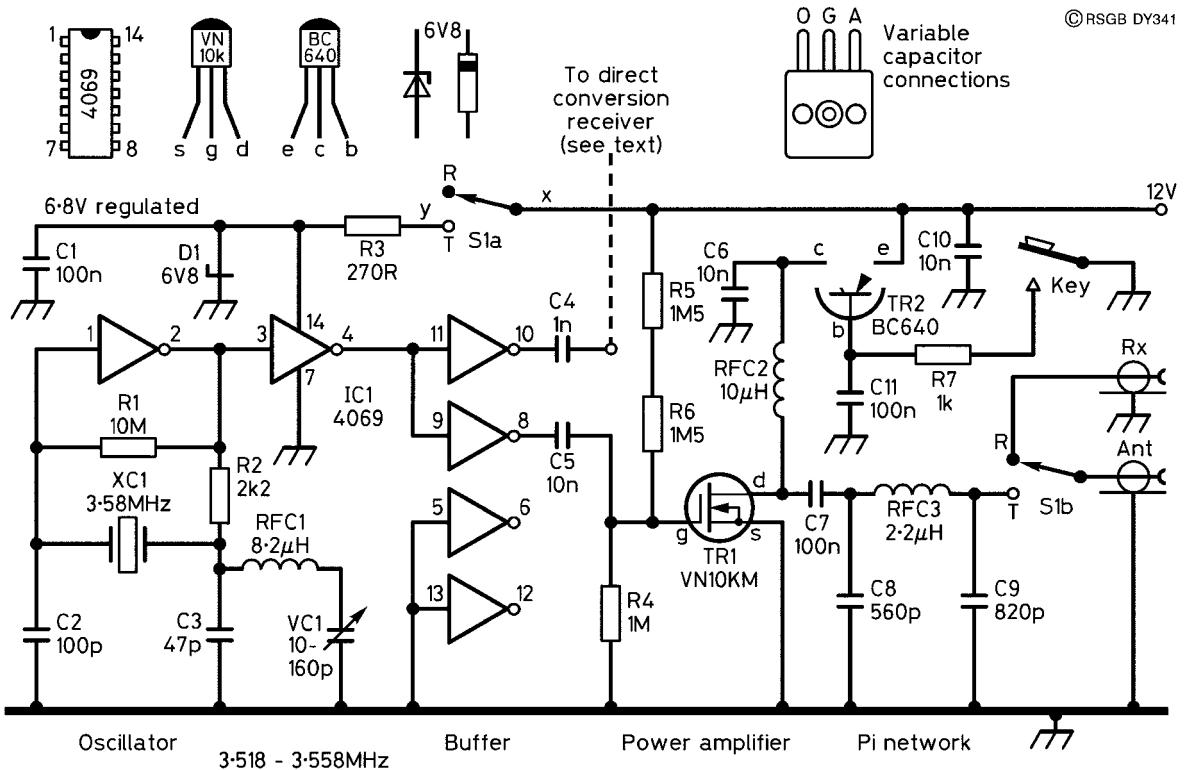

Figure 2 Circuit diagram of 80 metre transmitter
Figure 2 shows the transmitter circuit diagram. An unusual aspect of this transmitter is the use of a digital CMOS integrated circuit (IC) type 4069 for the buffer and oscillator stages. The IC houses six inverters, four of which are used in the circuit. One is used as the oscillator, two are used for the buffer stage, and the fourth provides an output for a direct-conversion receiver, should one be added at a later date.
In all probability, the unmodified circuit of Figure 2 will not require any of the changes outlined here. A coverage of 3.518 to 3.558 MHz should be possible, while preserving good frequency stability and reliable oscillation.